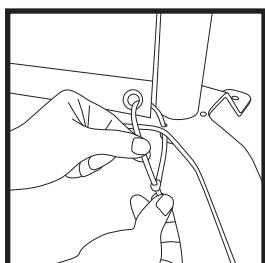

Fig. 7
8. Using the cable ties, attach the banner to the bases (applies only to PVC banners) (Fig. 7).